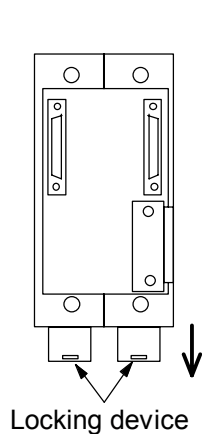

Figure 1
2. Pull down both locking devices at the bottom of the mother block. (Figure 1)